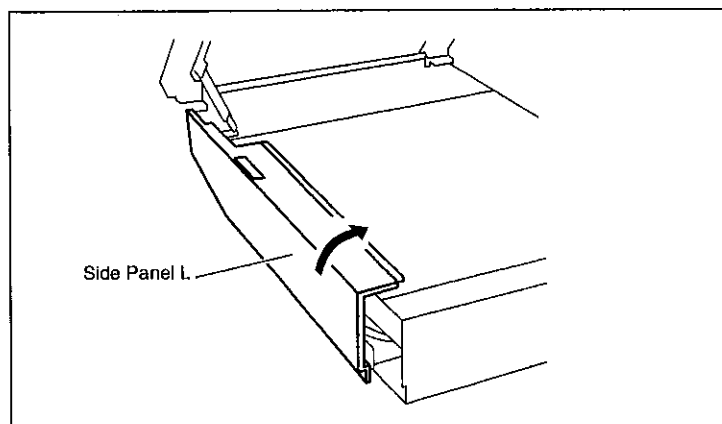

Fig. 8-4
- 5) Centralize the axis (fulcrum) of the lever and turn Side Panel L toward the right, as shown in Fig. 8-4. While turning, bring it down toward the inside (toward the left).